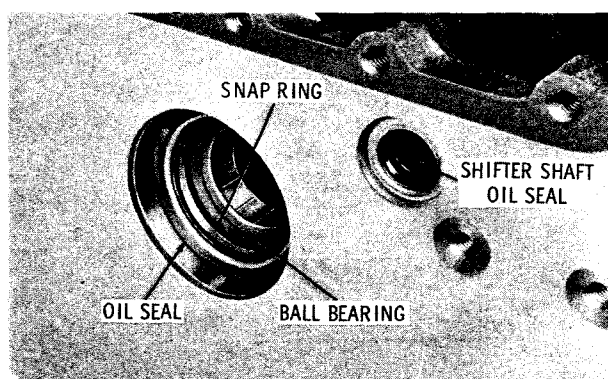
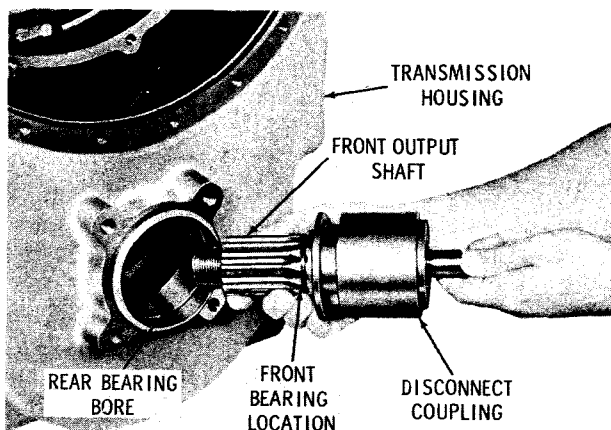

Fig. 7-5. Output shaft front bearing and sealring
Fig. 7-6. Installing front output shaft and disconnect coupling
(1) If the front output shaft bearing was removed, replace the bearing, shield side last, into the housing bore (fig. 7-5). Seat the front bearing firmly against the shoulder in the bore, and install the snapping against the bearing outer race.
(2) If the lip-type oil seal was removed, apply nonhardening sealant onto the outside diameter of a new seal. Install the seal, spring-loaded lip first, and press it squarely into the bore until it is lightly seated against the counterbore shoulder (fig. 7-5).
(3) If the shifter shaft oil seal was removed, apply nonhardening sealant onto the outside diameter of a new seal. Install the seal, spring-loaded lip first, and press it squarely into the bore at the front of the housing, until it is lightly seated against the counterbore shoulder.
(4) Install one ball 11 (A, foldout 8), spring 12, and other ball 11 into front output shaft 10. While holding these balls against the spring pressure, slide disconnect coupling 13, grooved end first, onto shaft 10 until the rear end of the coupling is flush with the shaft rear splines (disengaged position) (fig. 7-6).
(5) Install the front output shaft and assembled disconnect coupling, threaded end first into the rear output shaft bearing bore (fig. 7-6). Support the inner race of the front output bearing (fig. 7-5), and seat the shoulder of the front output shaft against the bearing.